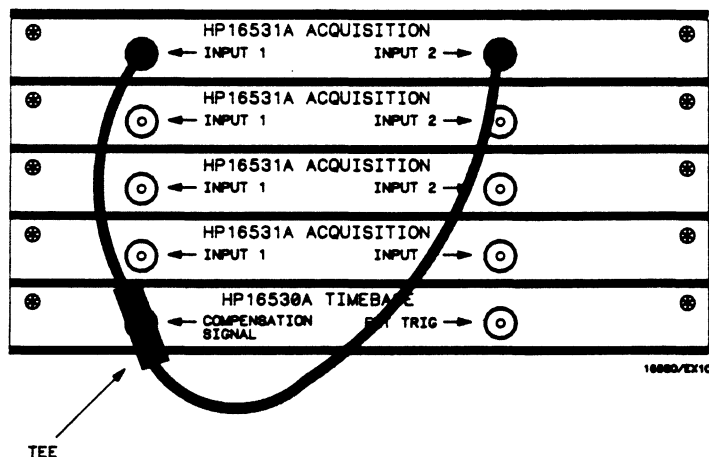

Figure 4-13. Channel-To-Channel Skew Equipment Hookup
- p. Using two cables of equal length and a BNC tee, connect Compensation Signal as shown in figure 4-13 to INPUT 1 and INPUT 2 of the top acquisition card. INPUT 1 of the top acquisition card will be the reference for all other channels. INPUT 2 will be the first channel to be calibrated.